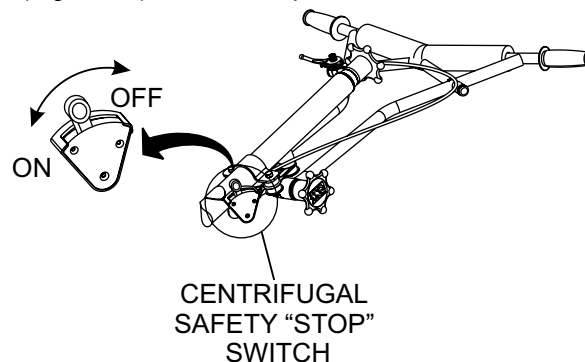

Figure 22. Centrifugal Safety "Stop" Switch (ON)
3. Place the **centrifugal safety "STOP" switch** (Figure 22) in the "ON" position.